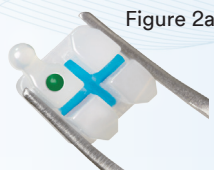
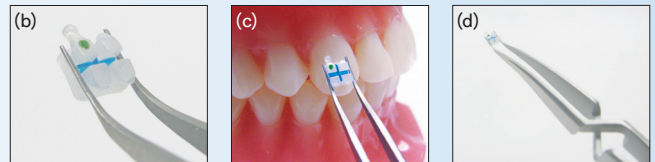

Figure 2a
Figure 2b-d
A. Clarity ADVANCED Ceramic Brackets feature an easy-off vertical and horizontal reference marker (Figure 2a) to guide bracket placement. To minimize force on the vertical stress concentrator, which provides the easy debonding feature of this bracket, the bracket should be picked up and positioned by seating the instrument on the base flange of the bracket, as opposed to higher up on the tie-wings (Figure 2b and 2c). It is recommended that reverse-action tweezers are used (e.g. REF 804-171) to pick up and position the bracket (Figure 2d) as these tweezers place less, and more consistent, force on the tie-wings. Additional positioning should be done using the